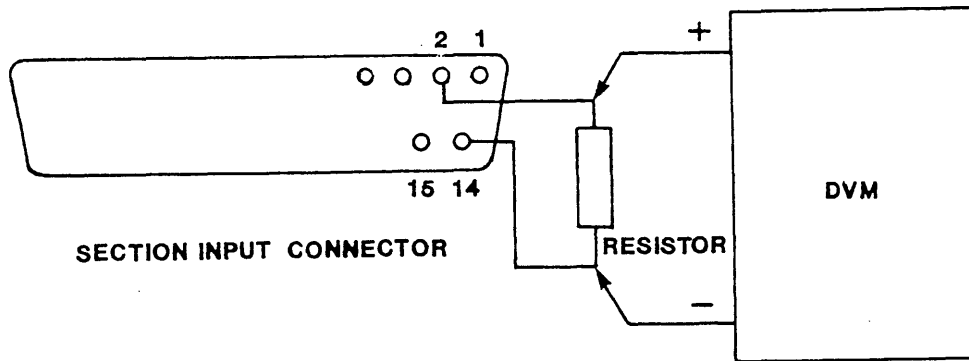

Figure 3-8. Test Connections for Threshold Voltage Adjustment
2. Install the 4.7K-Ohm resistor between sockets 2 (ground) and 14 (Clock Threshold input) at SECTION A (bits 7-0). Connect the DVM positive (+) lead to socket 2 and the DVM negative (-) lead to socket 14 so that the voltage measurement is taken across the resistor. See Figure 3-8.
1. Install the 4.7K-Ohm resistor at sockets 2 and 14 of the SECTION A Input connector (bits 7-0). Connect the DVM positive (+) lead to socket 2. Connect the DVM negative (-) lead to socket 14 so the measurement is taken across the resistor. See Figure 3-8.